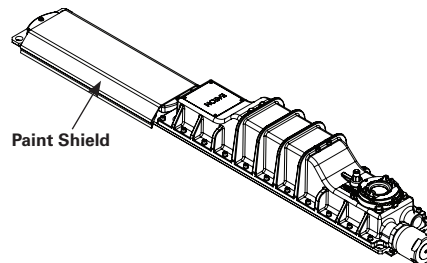

Figure 13
2. Locate the shield over the light emitting surface with the open portion facing the luminaire (see Figure 13).